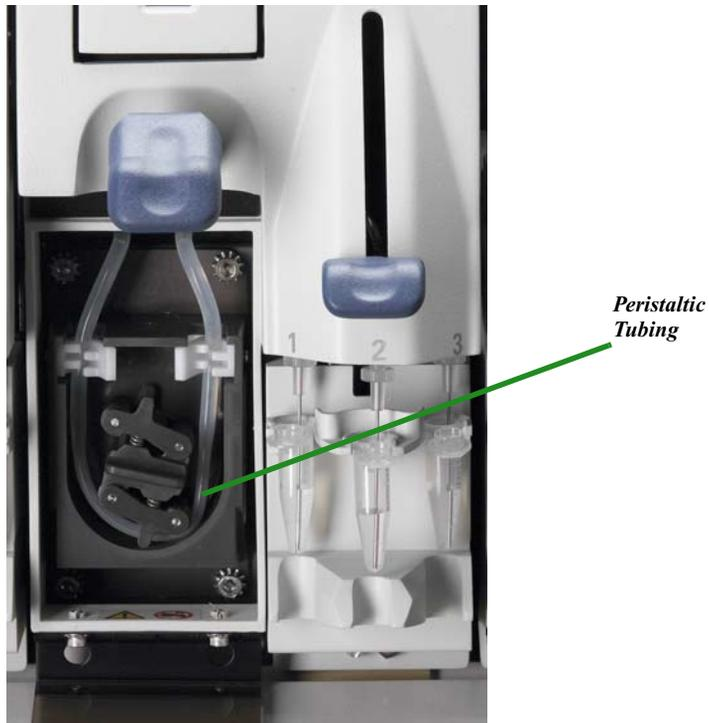

Figure 3.6
1. Open the module door (Figure 3.6). Also see item number 2 in Figure 1.1 on page 11.